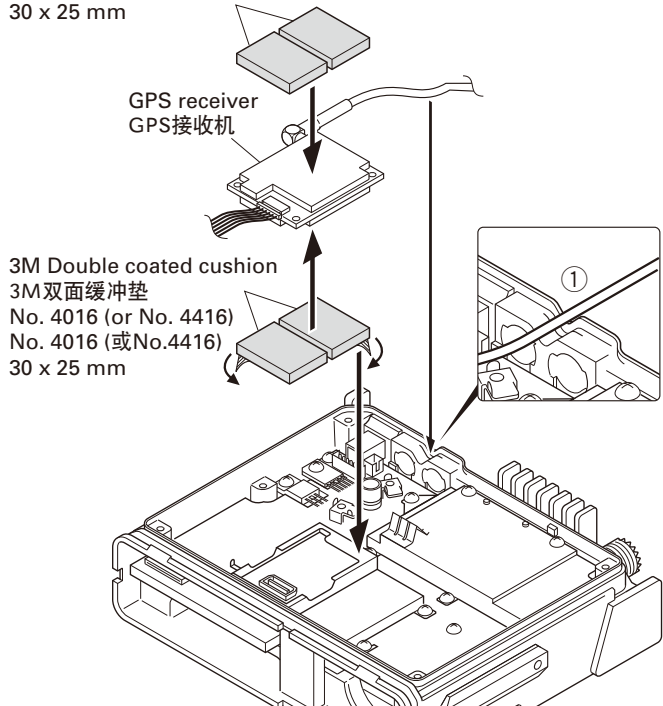

Fig. 6-2 / 图 6-2
4. Attach the GPS receiver to the shield case with two cushions as shown in Figure 6-2.
6. Place the GPS antenna cable in the hollow at the rear of the chassis. (Fig. 6-2 ①)
4. 如图 6-2 所示，用两块缓冲垫将 GPS 接收机安装到屏蔽罩。
6. 将 GPS 天线放入底座后部的凹槽。(图 6-2 ①)